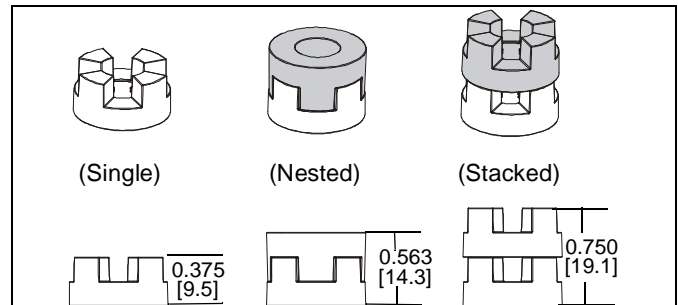

Figure 2
NOTE: The nesting spacers (MA) may be used separately, or put two together in different configurations to create different size spacers. (See Figure 2)